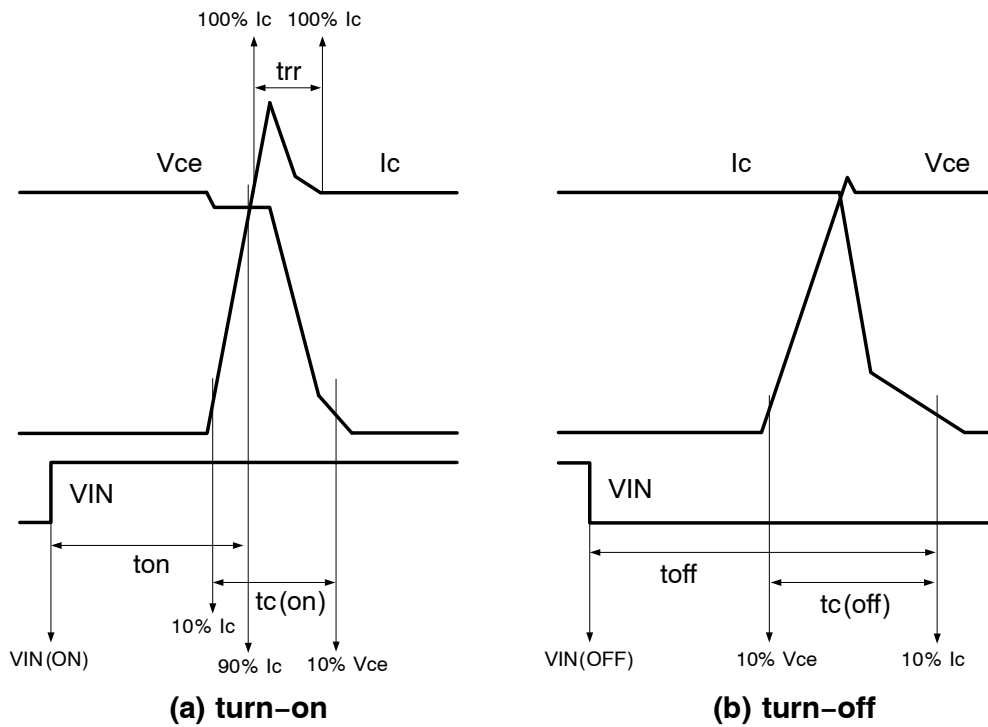

Figure 3. Switching Time Definition
3. ton and toff include the propagation delay of the internal drive IC. tc(on) and tc(off) are the switching times of IGBT under the given gate–driving condition internally. For the detailed information, please see Figure 3.